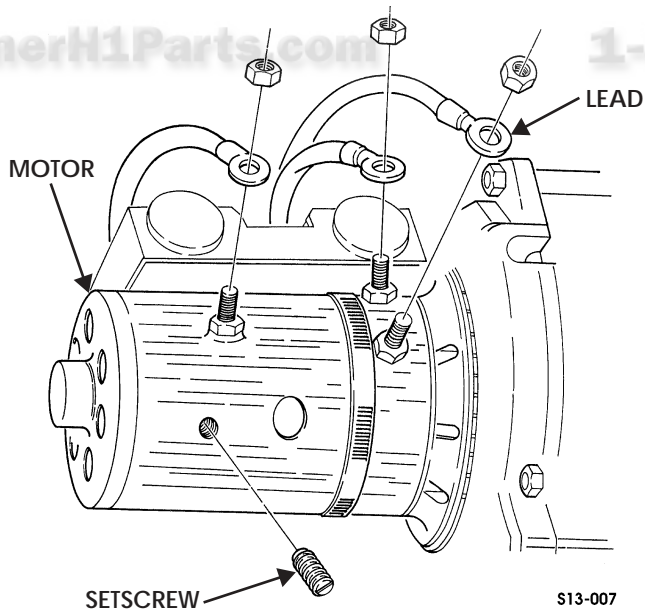

Figure 13-21: Control Leads
29. Connect three control leads to terminals and secure with nuts (Figure 13-21).